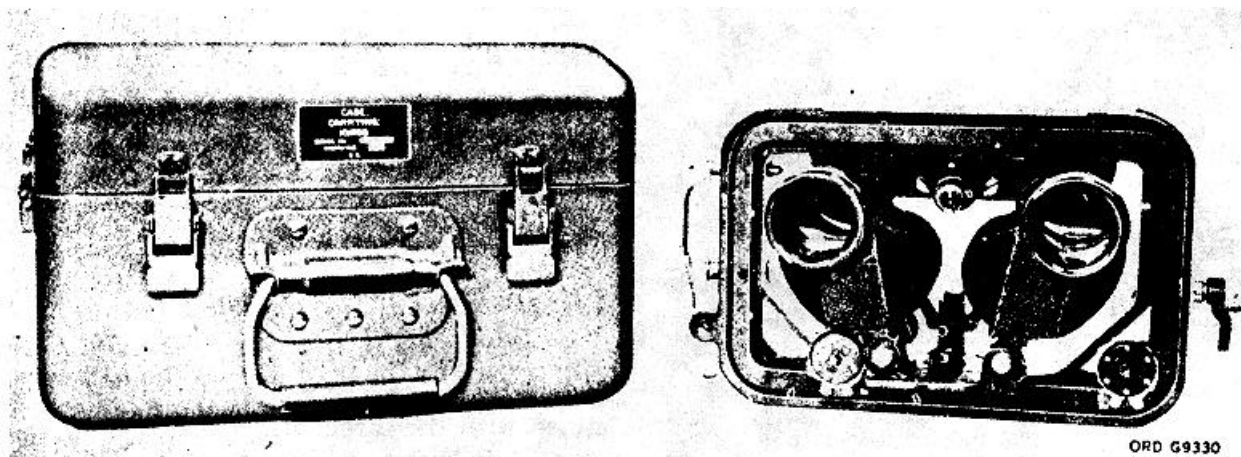

Figure 10. Gunner's sight.
b. Gunner-Operator's Sight (fig. 10). This sight is mounted in front of, and above the copilot's seat. It provides an enlarged view of the target with minimum vibration. Eight-power binoculars magnify the target. To keep